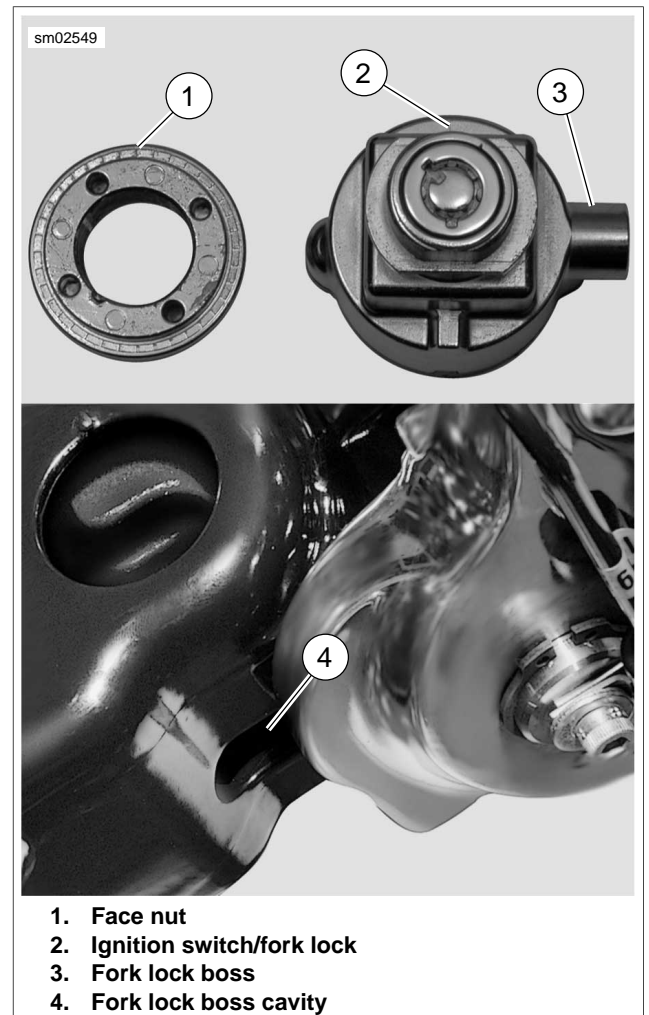
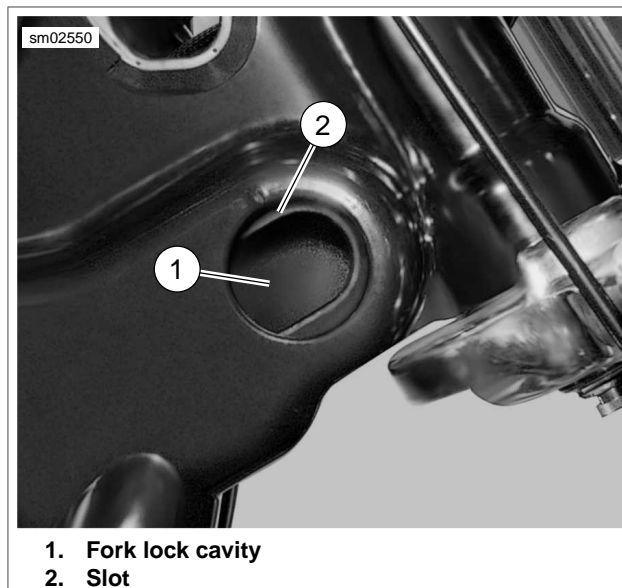

Figure 8-14. Fork Lock/Ignition Switch
Figure 8-15. Fork Lock/Ignition Switch Cavity
11. See Figure 8-14. Rotate ignition switch/fork lock (2) clockwise to allow fork lock boss (3) to clear fork lock cavity (4). Remove ignition switch/fork lock from frame.
1. See Figure 8-14. Apply a drop of LOCTITE THREAD-LOCKER 243 (blue) to threads of face nut (1).
2. Install face nut on ignition switch/fork lock (2). Turn face nut clockwise until it bottoms on ignition switch/fork lock.
4. With fork lock boss (3) facing front of vehicle, install ignition switch/fork lock into frame.
5. See Figure 8-15. Align flats on ignition switch/fork lock with slots (2) in fork lock cavity (1).
6. See Figure 8-14. Rotate ignition switch/fork lock until fork lock boss (3) engages fork lock boss cavity (4).